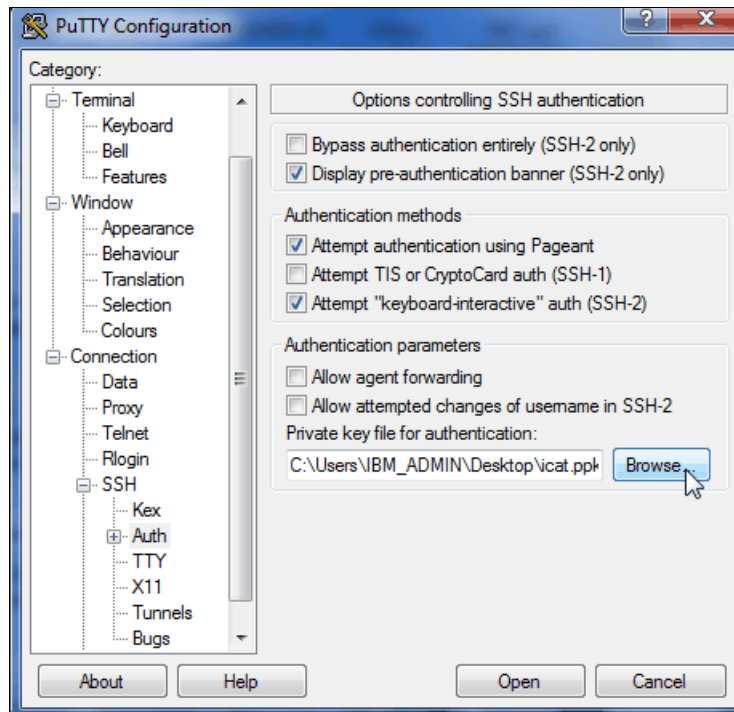

Figure A-11 SSH authentication
- As shown in Figure A-11, in the right side pane in the **Private key file for authentication** field under the Authentication Parameters section, browse to or manually enter the fully qualified directory path and file name of the SSH client private key file that was created earlier (for example, C:\Support Utils\PuTTY\icat.PPK).